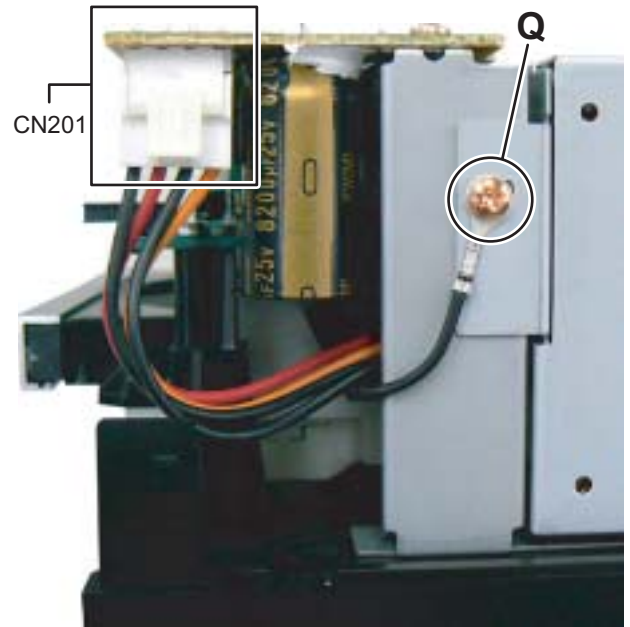

Fig.10
3.1.5 Removing the Switching power supply unit (see Fig.10)